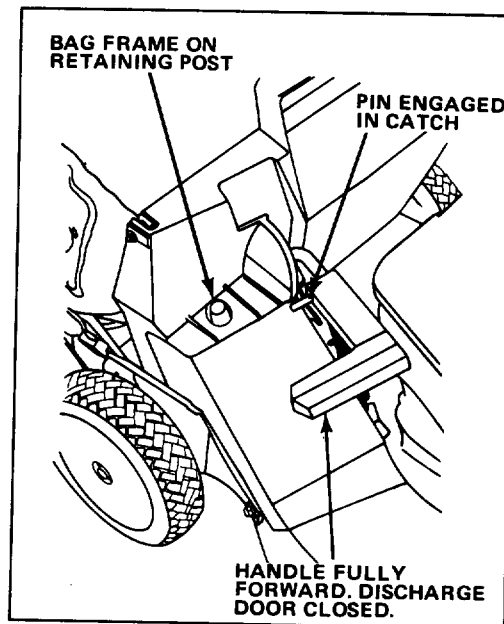

Figure 11
2. Assure discharge door handle is fully forward and pin is engaged in catch (Fig. 11).
3. **INSTALLING BAG**—Slide hole in bag frame onto retaining post on discharge tunnel (Fig. 11). Set rear of bag frame onto lower handle.
5. EMPTYING BAG—Stop engine and wait for all moving parts to stop. Raise discharge door handle and move it forward to engage the locking pin with catch (Fig. 11). Grasp handles at front and rear of bag and lift bag off mower. Gradually tip bag forward to empty clippings.